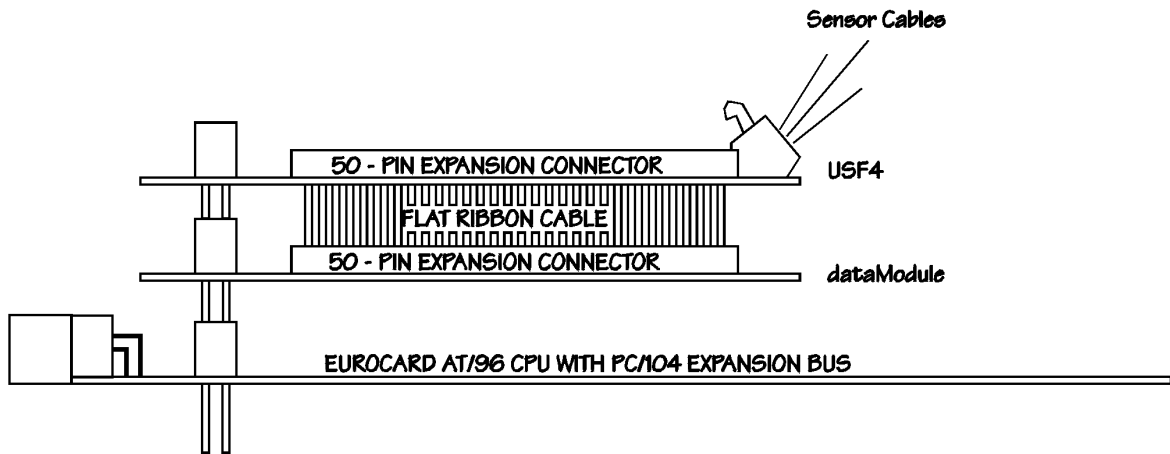

Fig. 2-3 19" Eurocard rack installation with an integrated PC/104 dataModule and EUROCARD cpuModule computer system.
- * The PC/104 system can easily be inserted into a 19" rack installation using the CPU as a "form factor adapter". Assemble your PC/104 data modules on a RTD single board EUROCARD computer and install the system in a 19" enclosure. Multiple USF4 boards can be connected to this system by daisy-chaining the 50-pin expansion connector interfacing to the data-Module. See figure 2-3.